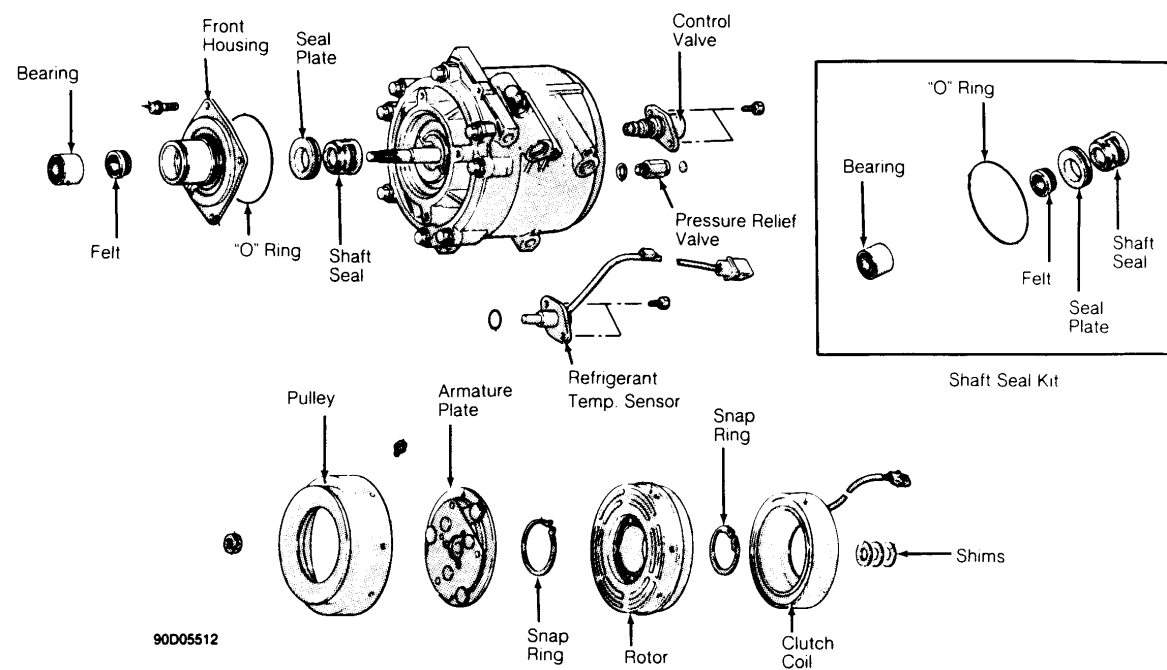

Fig. 17: Sanden Scroll Compressor
2. Remove armature plate. See Fig. 17 . Remove snap ring with internal snap ring pliers. Remove clutch hub. Remove snap ring and clutch coil.